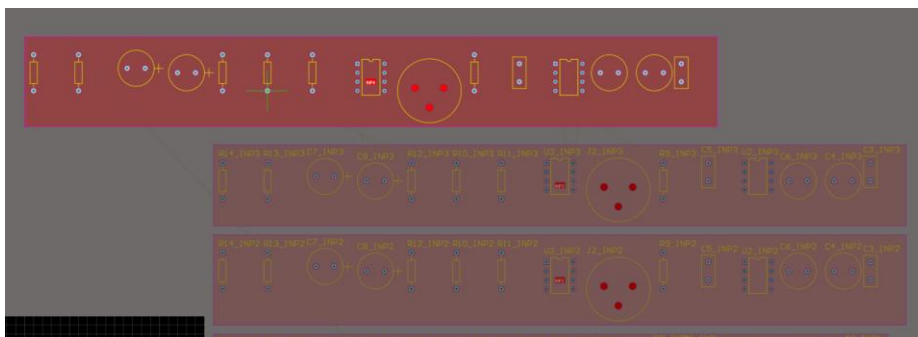

Figure 3. Moving room INP4
5. Back in the PCB, click on room INP4 located on the top right of the editor workspace and drag it to the left as shown in Figure 3 . Notice that all of the components in the room move as well.